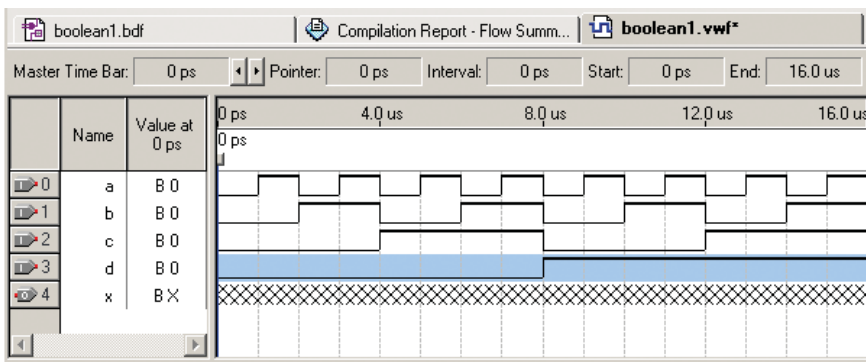

Figure 37 Waveforms showing a binary count on the *a*, *b*, *c*, and *d* inputs of the *vwf* file.
27. Repeat for the *c*-waveform ($8\ \mu\text{s}$) and the *d*-waveform ($16\ \mu\text{s}$). When completed, the *vwf* screen with all four clock waveforms should look like Figure 37.